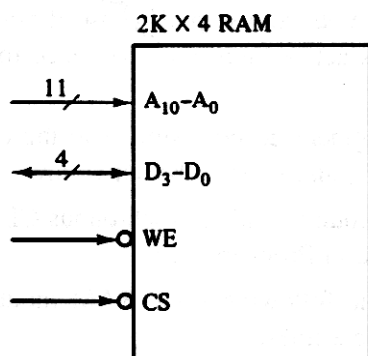

Figure 6.41 $2K \times 4$ RAM module for Problem 6.21.
- 6.21. Realize the $2K \times 4$ RAM module with chip-select input of Fig. 6.41 by using $1K \times 4$ RAMs, as shown in Fig. 6.23, and any additional logic that is necessary.